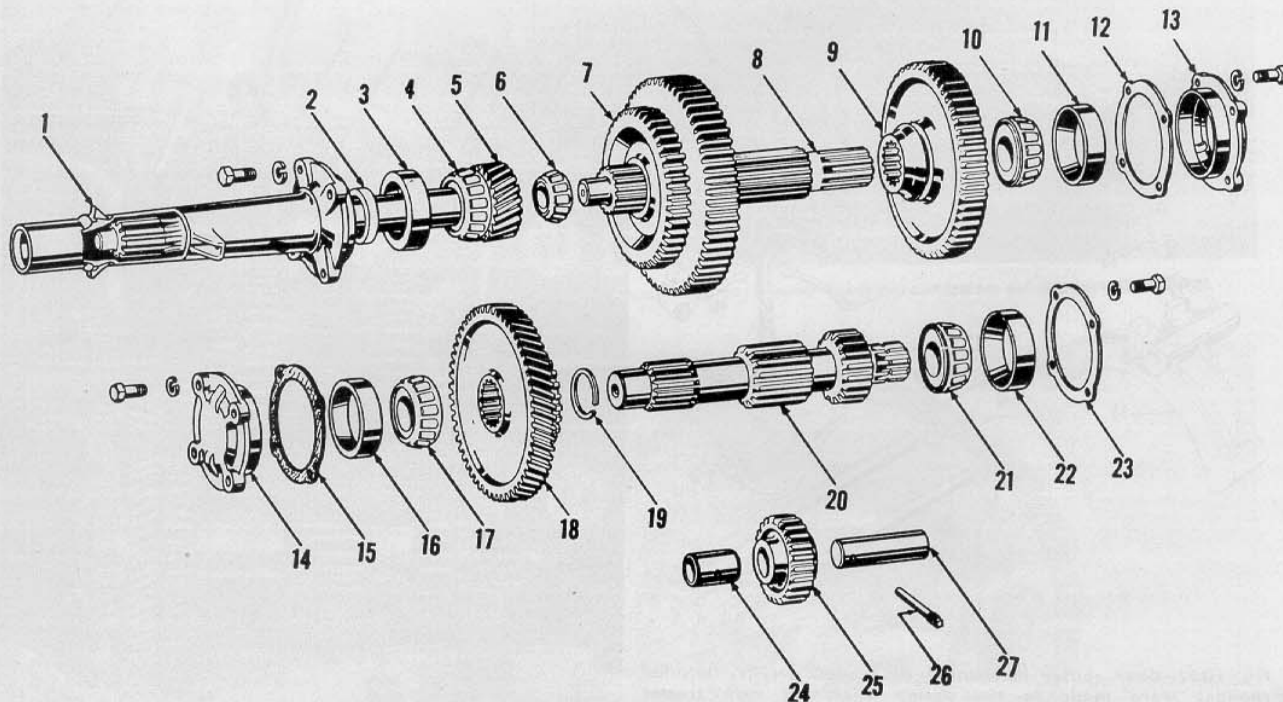

Fig. FO55—Transmission gears and shafts on models 2N-9N.
76. REVERSE IDLER GEAR. May be removed after countershaft is out. Unscrew idler shaft lockpin (26—Fig. FO55) located on outer left side of transmission housing and remove idler shaft and gear (27 & 25). Rebush gear or renew gear and shaft and reinstall with beveled gear face toward rear of transmission.